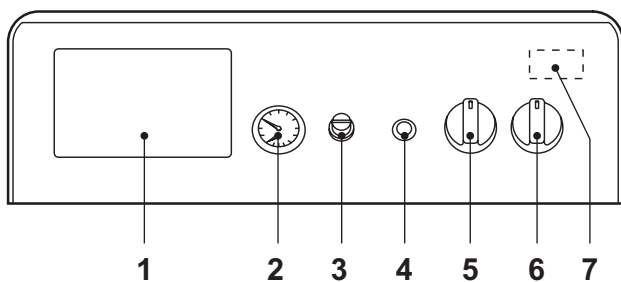
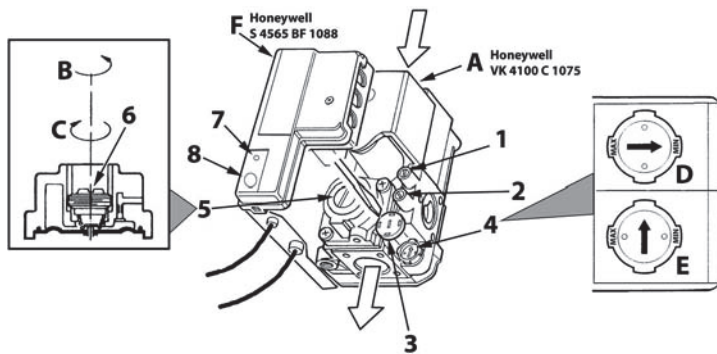

fig. 1 - Control panel
fig. 4 - Pressure adjustment
- Turn the main switch "6" to position 1 (fig. 1).
- If the boiler is equipped with an electronic thermostatic controller fitted in position 1 of fig. 1, the user must also take into account the manufacturer's instructions.
Turn the knob 5 of fig. 1 clockwise to increase the heating water temperature, or anticlockwise to decrease the temperature. The temperature can be varied from a minimum of 30°C to a maximum of 90°C. However, it is advisable not to operate the boiler below 45°C.
Using the room thermostat, set the required room temperature. Controlled by the room thermostat, the boiler lights and brings the system water to the temperature set by boiler control thermostat 5 of fig. 1. The generator turns off when the required temperature in the rooms is reached.
The filling pressure with system cold, read on the boiler water gauge detail 2 of fig. 1, must be approx. 1.0 bar. If, during operation, the system pressure falls (due to the evaporation of gases dissolved in the water) to values below the minimum described above, the User must bring it to the initial value by operating the filling cock. At the end of the operation always close the filling cock.
Connect a manometer to the pressure point **2** (fig. 4) located downstream of the gas valve, and turn the boiler thermostat knob (ref. 5 - fig. 1) to the maximum value.
After removing the protection cap **5** (fig. 4), adjust the gas pressure at the burner by turning the screw **6** to the required value (see technical data table and output variability diagrams given in cap. 5).
2. Remove the small protection cap **3** (fig. 4) from the gas valve. Using a small screwdriver, adjust the ignition step for the required gas (**G20-G25** position **D** fig. 4 or **G30-G31** position **E** fig. 4); then refit the cap.